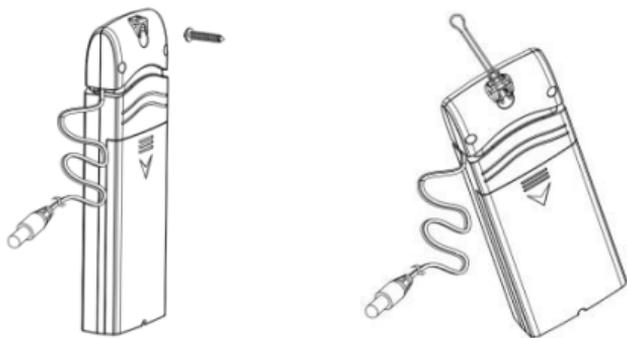

Figure 5: Indoor sensor mounting
- Use a screw or nail to affix the remote sensor to the wall, as shown on the left side of figure 5, or
Hang the remote sensor using a string, as shown in right side of figure 5.